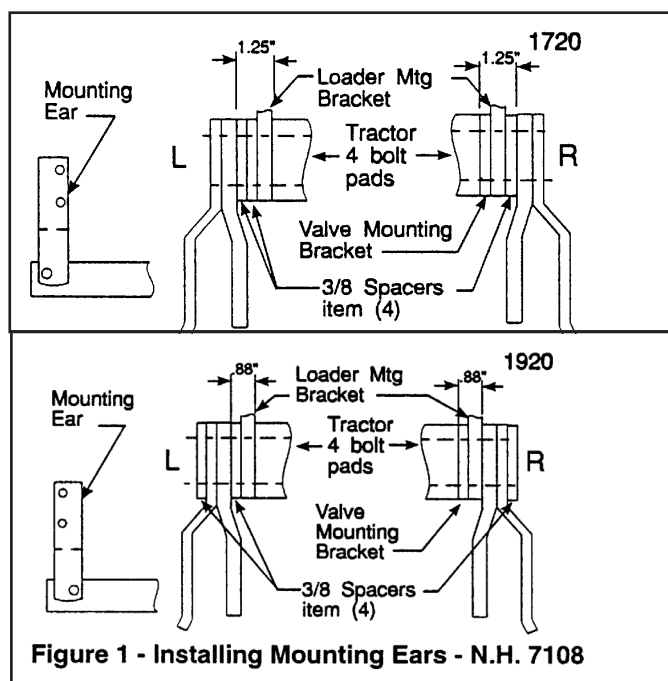

Figure 1 - Installing Mounting Ears - N.H. 7108
3. Install support flats (2) using 12MM x 30MM cap screws (19) and 1/2 lock washers (22) into tractor trumpet housing and 1/2 x 1-1/2 cap screws (20), 1/2 flat washers (24) and 1/2 lock nuts (21) in mounting bracket (3).
5. Install mounting ears (5 & 6) using spacers (4), 16MM x 80MM cap screws (12) and 5/8 lock washers (13). Refer to Figure 1 for proper spacer location on different tractor models. Torque all bolts to specifications in backhoe manual.
Refer to Figure 1 for proper spacing of spacers (4) and orientation of mounting ears (5 & 6).